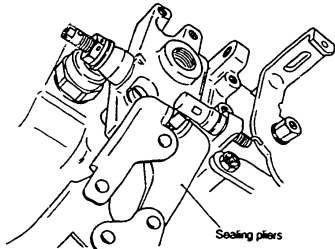

Fig. 8 Sealing the cap
6. Crush the lead seal using sealing pliers. (Fig. 8)